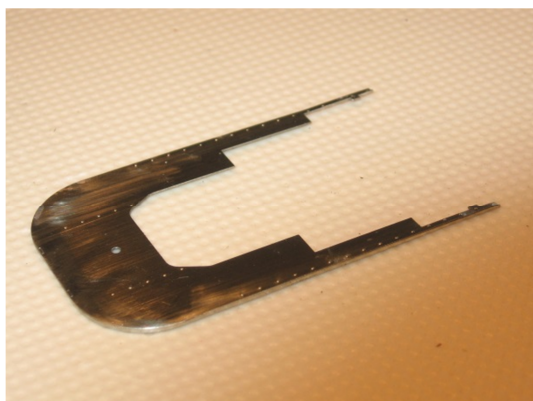

Fig. 3
14. Put aside whilst you build the tanks.(Fig 3, 5)